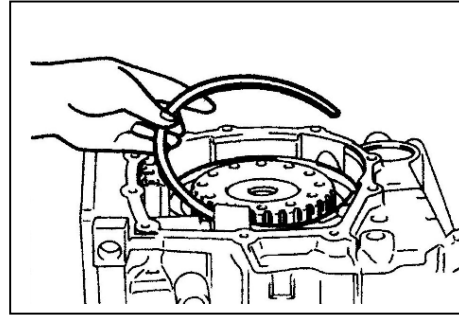

Fig.11A-90
(36) Install snap ring. See Fig.11A-90。